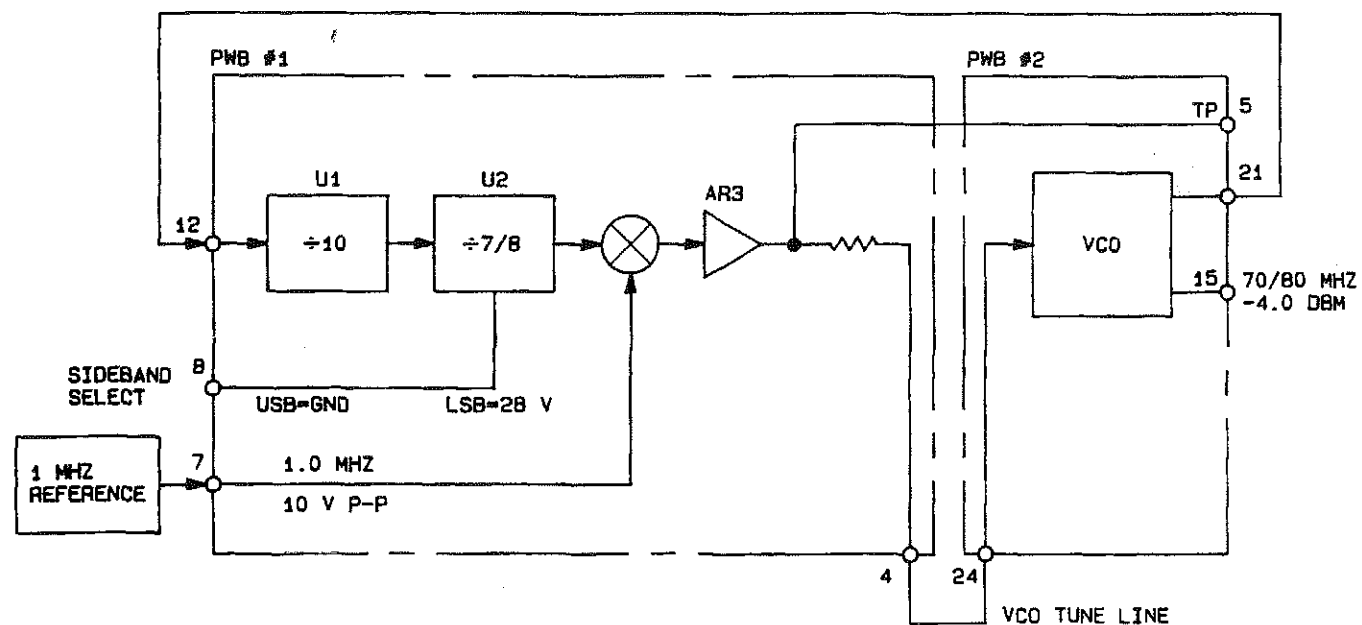

Figure 2-10. 70/80 MHz Voltage-Controlled Oscillator (VCO)
**70/80 MHZ VOLTAGE-CONTROLLED OSCILLATOR (VCO), fig 2-10**